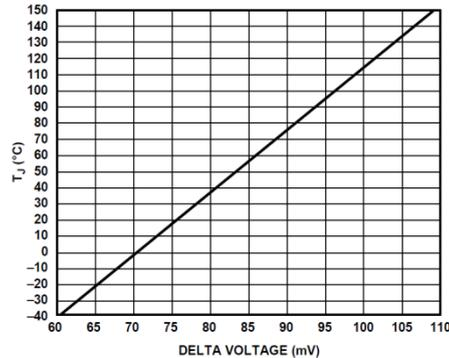

Figure 10. Relationship between ΔV and unit junction temperature
- 4) Configure register 0x18E6 to 0x02 to enable the second center temperature diode, which is 20 times the size of the first. The measured incremental voltage (ΔV) versus unit junction temperature is shown in Figure 10.